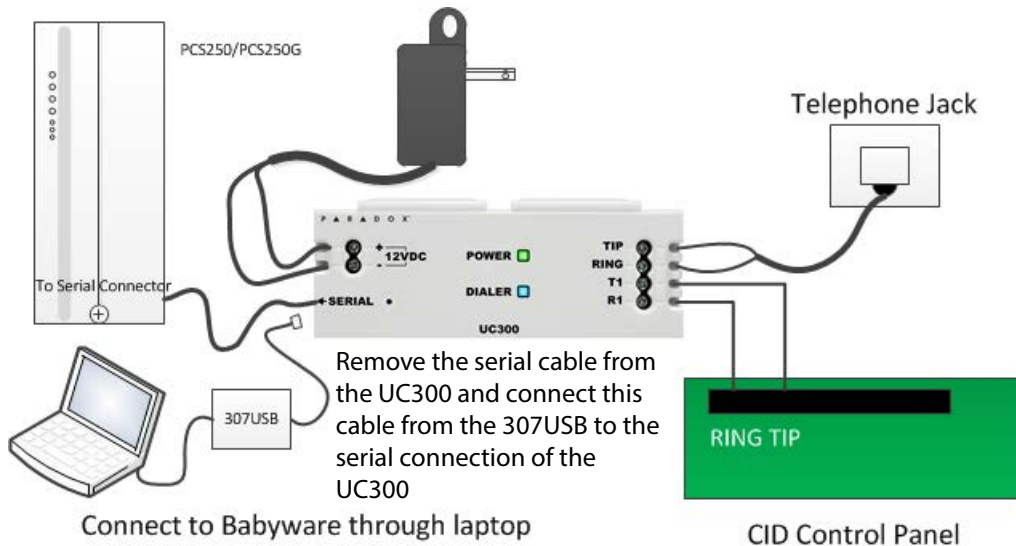

Figure 5 – Connecting the UC300 with a PCS250/PCS250G
6. Disconnect the cable from the UC300 Serial port and connect the IP150/UC300 to PCS250/PCS250G cable from the 307USB to connect to your laptop. This will allow you to configure the setup using BabyWare. See *Figure 5* insert.